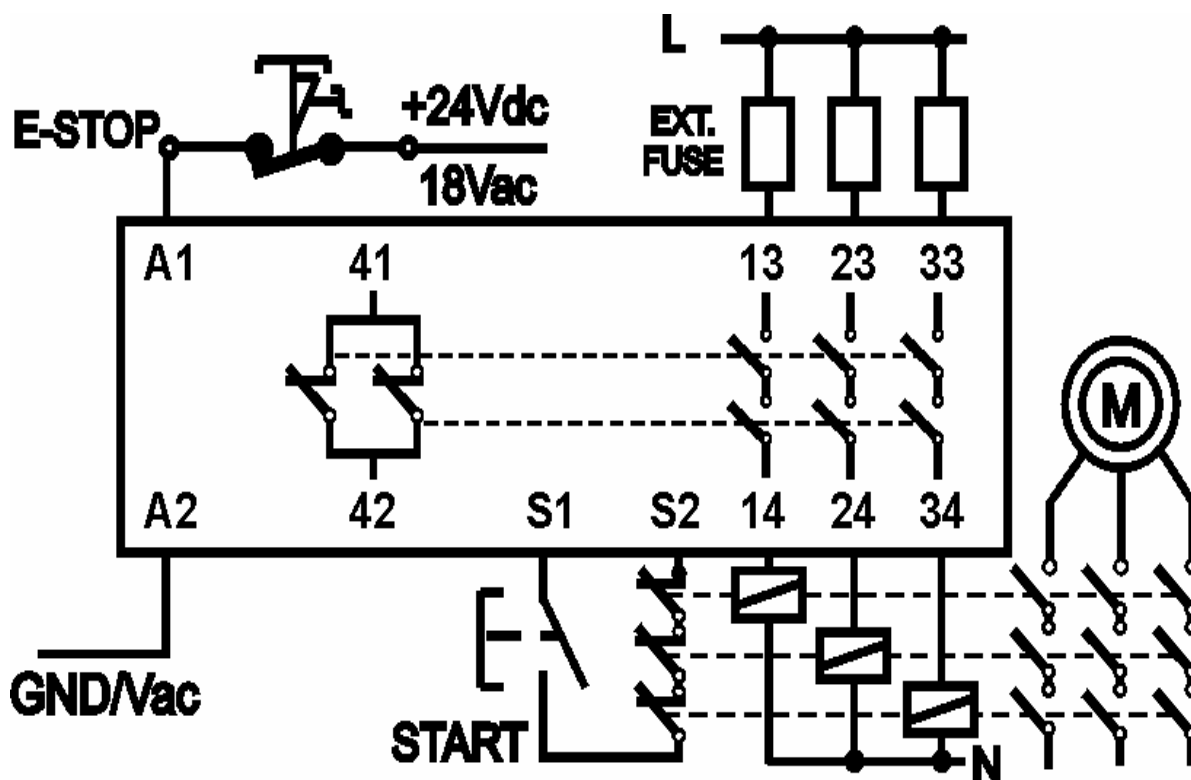

Figure 2: Connection diagram of NA1/3-C-T safety module. Each safety output is protected by a 4A external fuse.
The power supply must be connected to the terminals A1 and A2. In the example of Fig. 2 the safety module is operated by a 1 channel emergency stop button (with positive opening), connected in series to the A1 terminal. The E-Stop button is N.C. type: when the E-Stop button is not pushed, the module is powered on, while when it is pushed, the module is powered off and the safety outputs open with a delay of approximately 1 sec.
For manual START it is possible to connect in series to the N.C. feedback contacts a N.O. START button (See fig. 2).
- Push the start button connected to S1 and S2 (see Figure 2): the safety outputs 13-14, 23-24 and 33-34 close immediately (short-circuit between the terminals), while the auxiliary output (41-42) opens immediately (open-circuit between the terminals). The POWER, CH1 and CH2 LEDs must be ON.